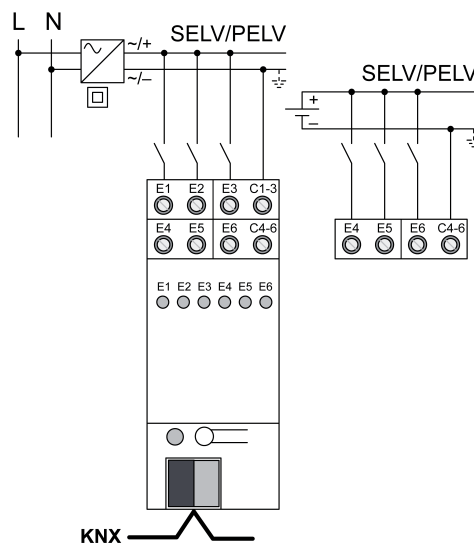

Figure 3: Connecting SELV/PELV circuits
- Connect SELV/PELV circuits as shown in the connection example (figure 3). Comply with the polarity.